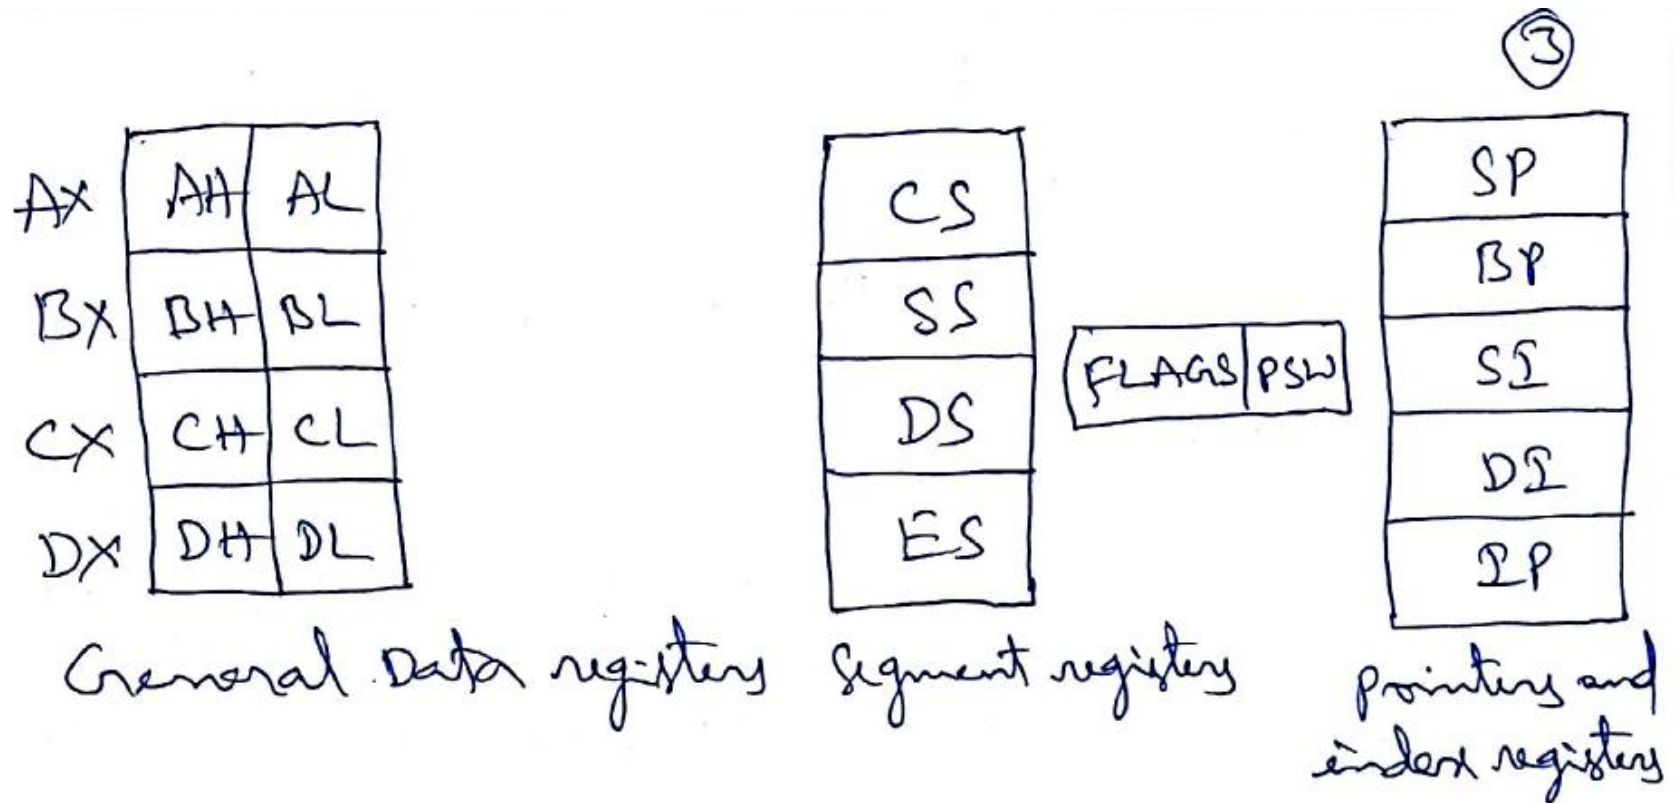

Fig 1.1 Register organisation of 8086.
- Figure 1.1 shows the register organization of 8086.